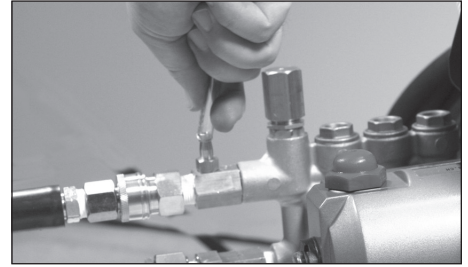

Figure 10 - Attach suction tube to barb fitting
2. Slide clear plastic detergent hose onto brass hose barb (See Figure 10).